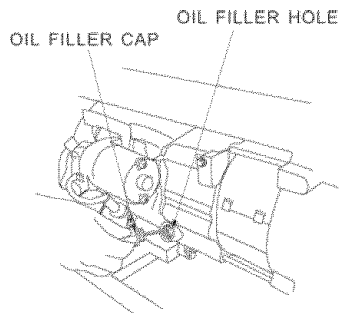

Figure 2- Unscrewing the oil cap
2. Unscrew the oil filler/dipstick cap from the engine as shown in figure 2.